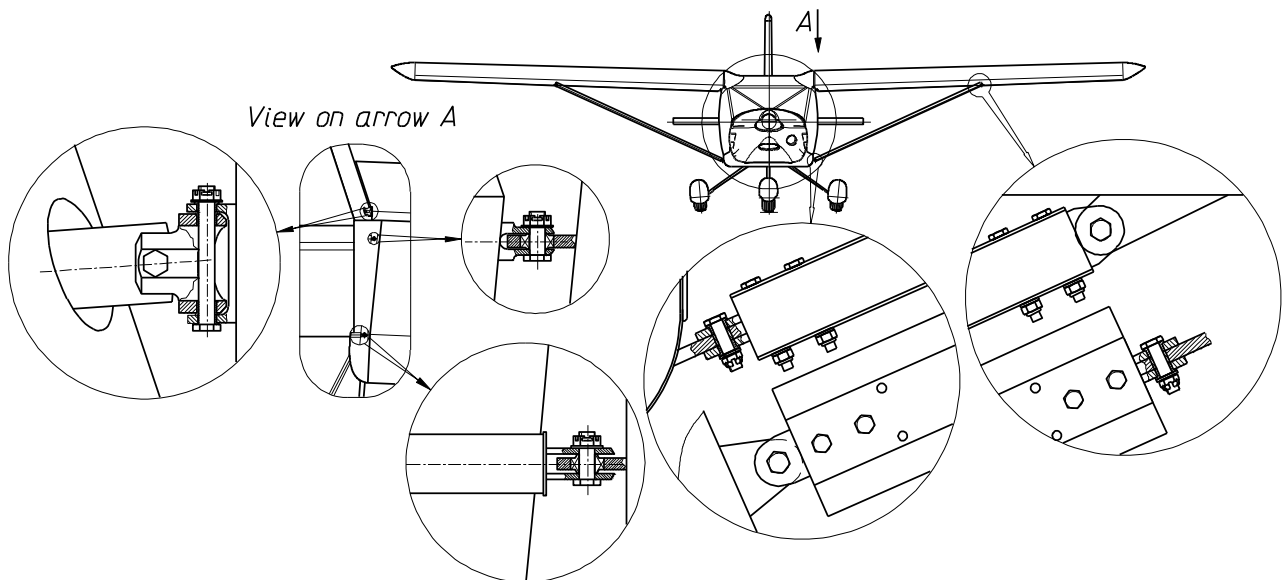

Fig. 19 Wing removal
Left and right wings shall be removed in turn (in any order) according to the following sequence (see **Fig. 19**):
4. Disconnect the full and static pressure lines at their joints (left wing, see **Fig. 19**).